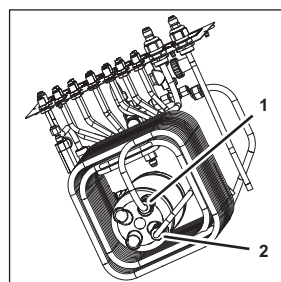

Figure 69
13. Disconnect the soda cooling line from the coupling (Figure 69/1).
14. Disconnect the soda water line from the coupling (Figure 69/2).
19. Attach the soda water line to the coupling (Figure 69/2).
20. Attach the soda cooling line to the coupling (Figure 69/1).